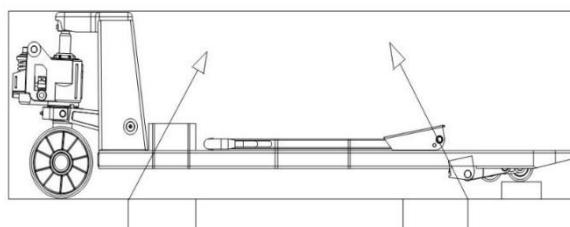

Fig. 7
- 10.1 See fig 7, both the hand grip and the steel stand should be detached and packed in another way before hoisting and transportation.